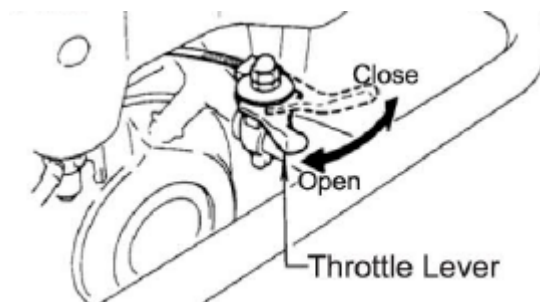

Figure 9 Throttle Lever (FULL OPEN)
1. To start the rammer tamping action, move the throttle lever (Figure 9) quickly from **IDLE** (close) to the **FULL OPEN** position. **DO NOT** move the throttle lever slowly as this may cause damage to the clutch or spring.